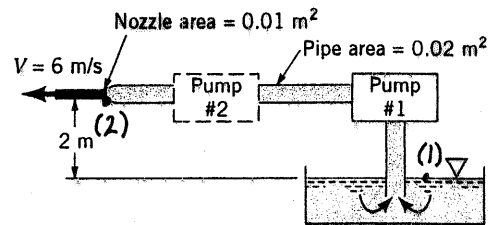

FIGURE P5.123
5.123 Water is to be pumped from the large tank shown in Fig. P5.123 with an exit velocity of 6 m/s. It was determined that the original pump (pump 1) that supplies 1 kW of power to the water did not produce the desired velocity. Hence, it is proposed that an additional pump (pump 2) be installed as indicated to increase the flowrate to the desired value. How much power must pump 2 add to the water? The head loss for this flow is $h_L = 250Q^2$, where h_L is in m when Q is in m^3/s .